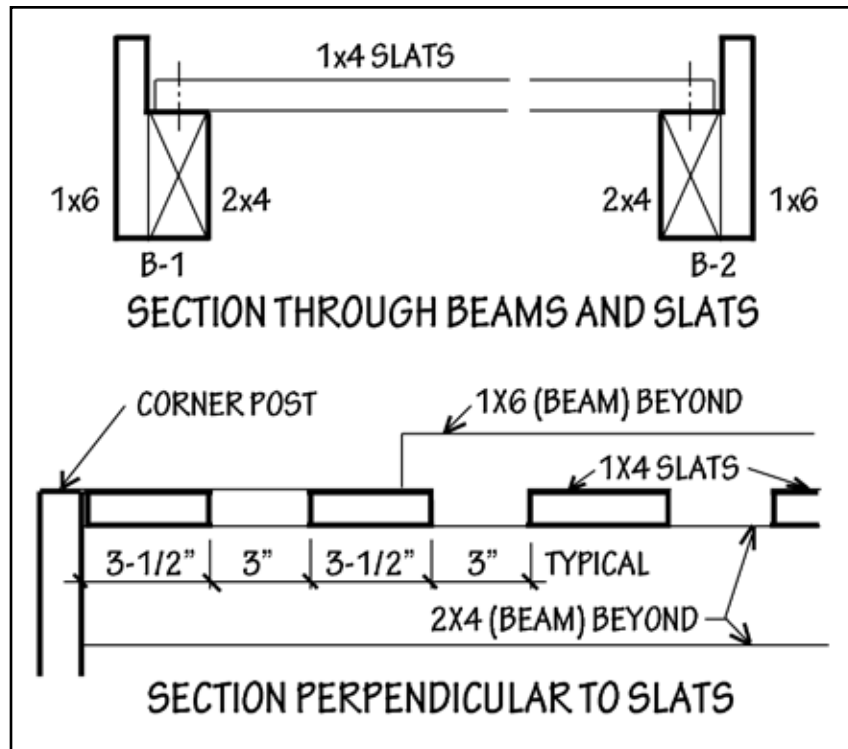

Figure 6. Installation of slats.
8. At this point, the twelve slats (SL-1 through SL-12) can be screwed into beams B-1 and B-2 (see Figure 6), using 1-5/8" screws. The first and last slats are placed up against the corner posts, with the ten interior slats evenly spaced, i.e., 3 in. apart.